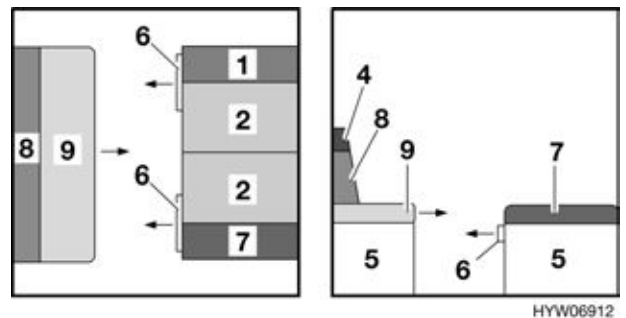

Fig. 82 During conversion
- Pull out as far as possible the bedding box extension (Fig. 82,6) on both bedding boxes of the central seating group.
- Lift the divan slightly (Fig. 82,9) and pull out as far as possible.
- Remove the additional cushion (Fig. 82,4) from the back cushion (Fig. 82,8). The additional cushion is fixed to the back cushion with Velcro and can easily be separated.